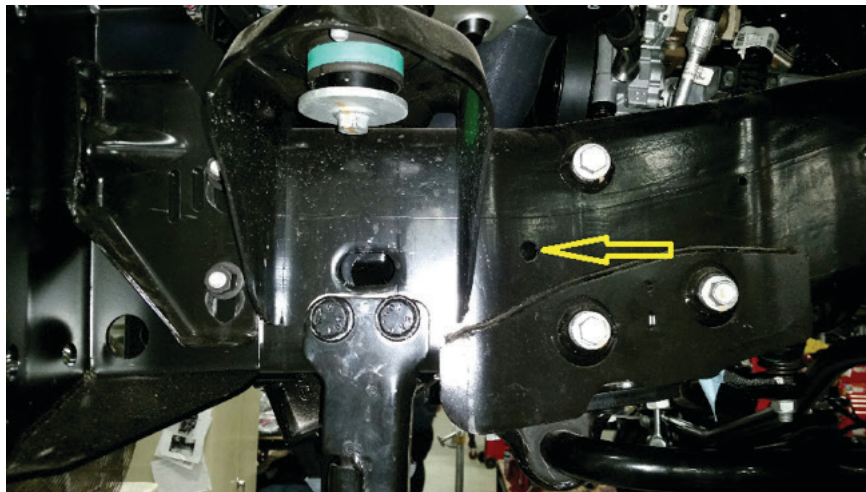

Figure 36: Driver Side
- G. Install the one inch long 90° bend with the rubber isolator into the hole in the frame rail just behind the front body mounts (fig. 36–37)